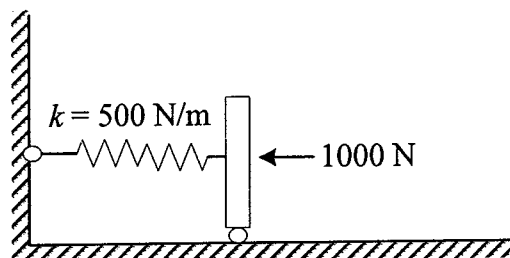

Figure Q5[a]
- Q5. [a] Use the principle of minimum potential energy to find the equilibrium of displacement of spring system as shown in Figure Q5[a]. Briefly discuss your findings.